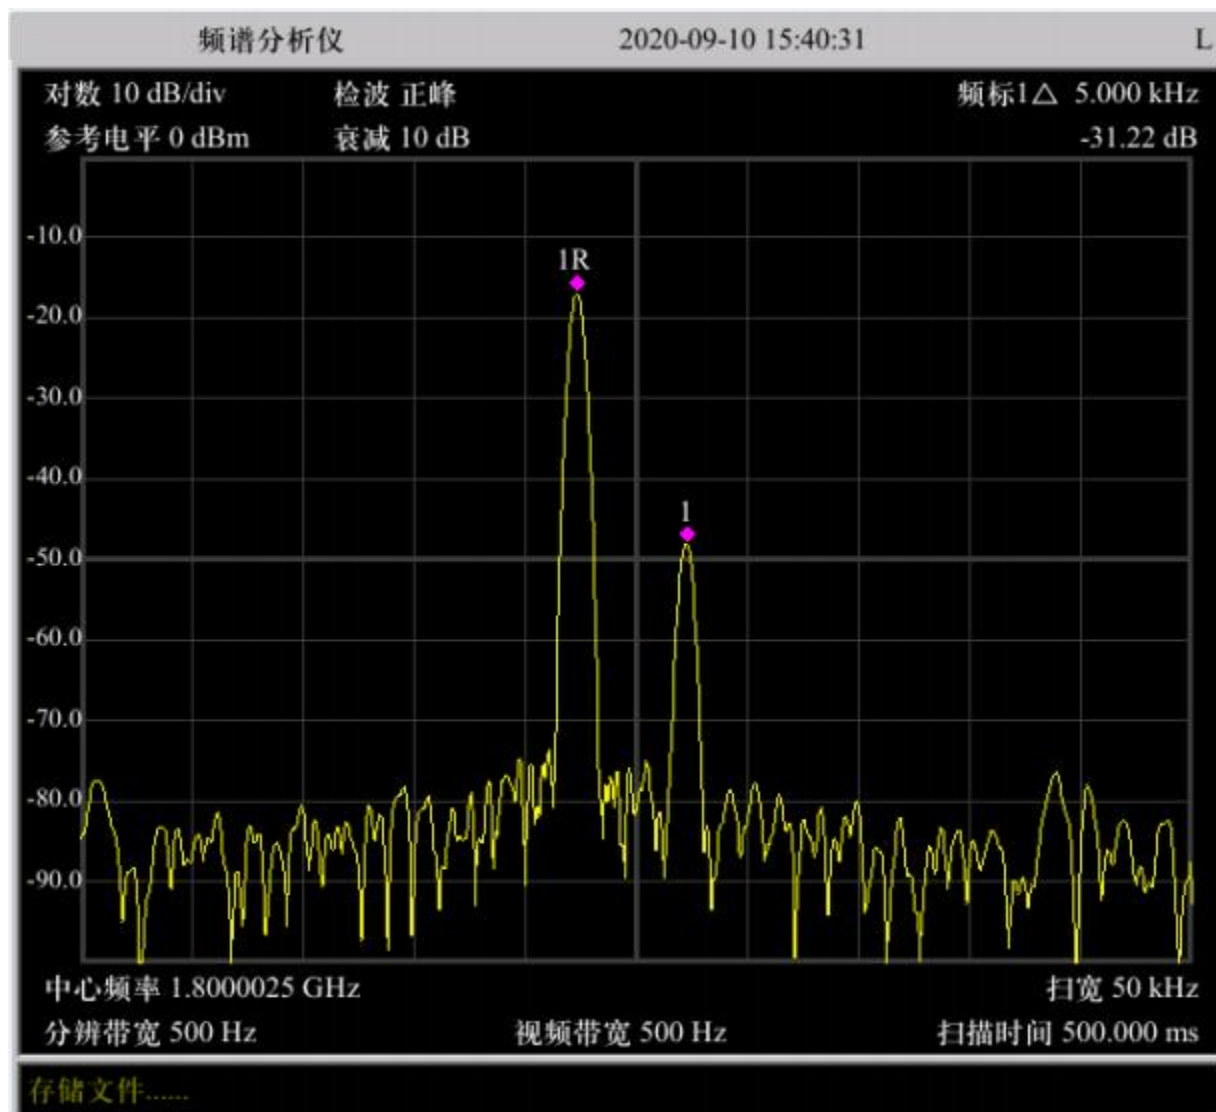

Figure 4-6 Test with 1kHz resolution bandwidth setting
- ◆ Press [Resolution bandwidth Auto Manual], set the resolution bandwidth to manual, and enter 500Hz; as shown in Figure 4-6.
- ◆ Press [Difference] and move the cursor to the secondary peak value to read the frequency difference and amplitude difference between the two unequal amplitude signals; as shown in Figure 4-6.